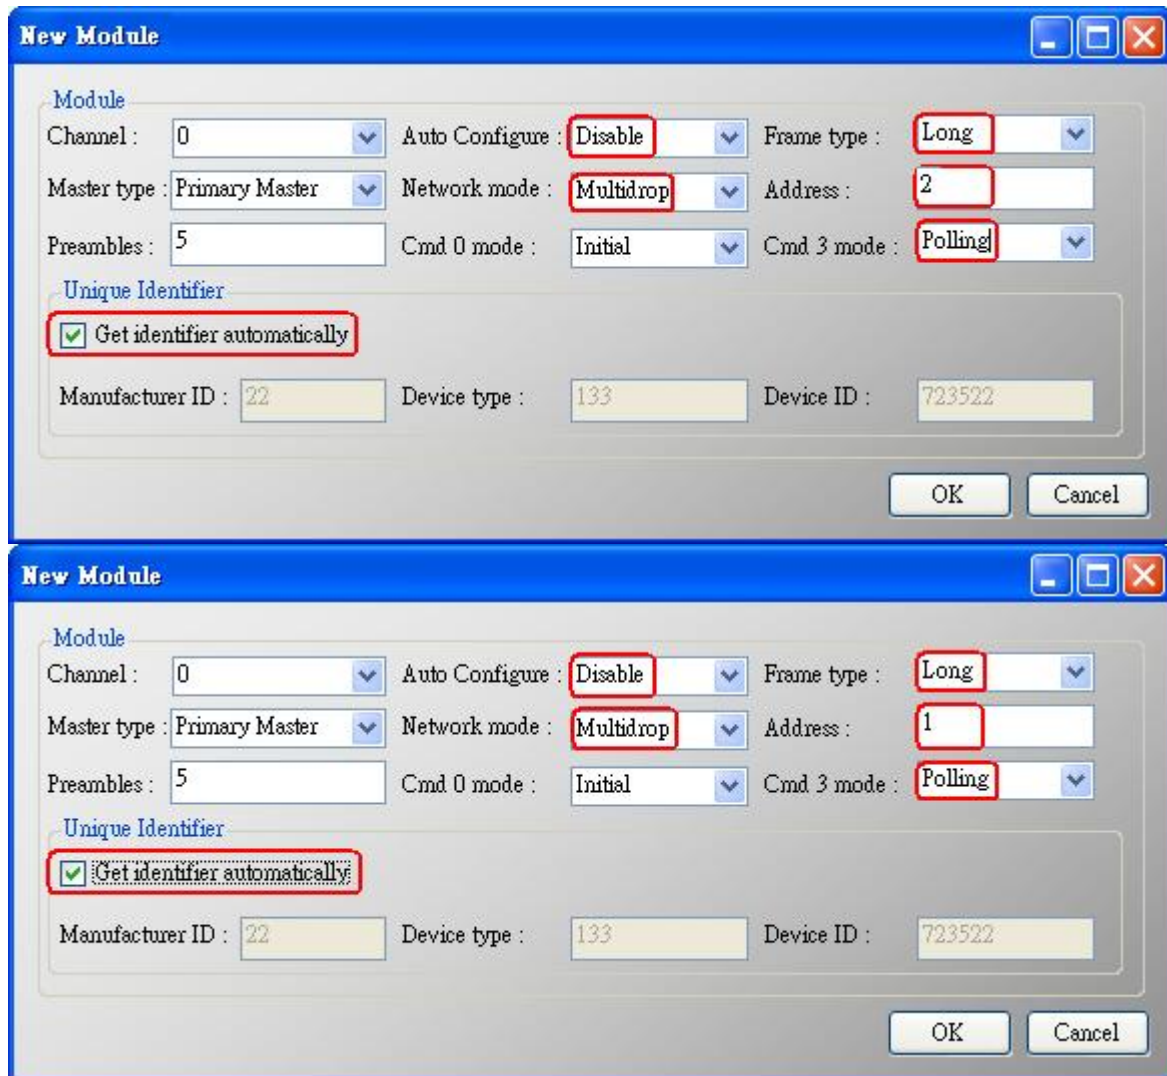

Figure 1-6 Add new HART device setting
(1) Click "Auto Configure" option to be **Disable** like Figure 1-6.